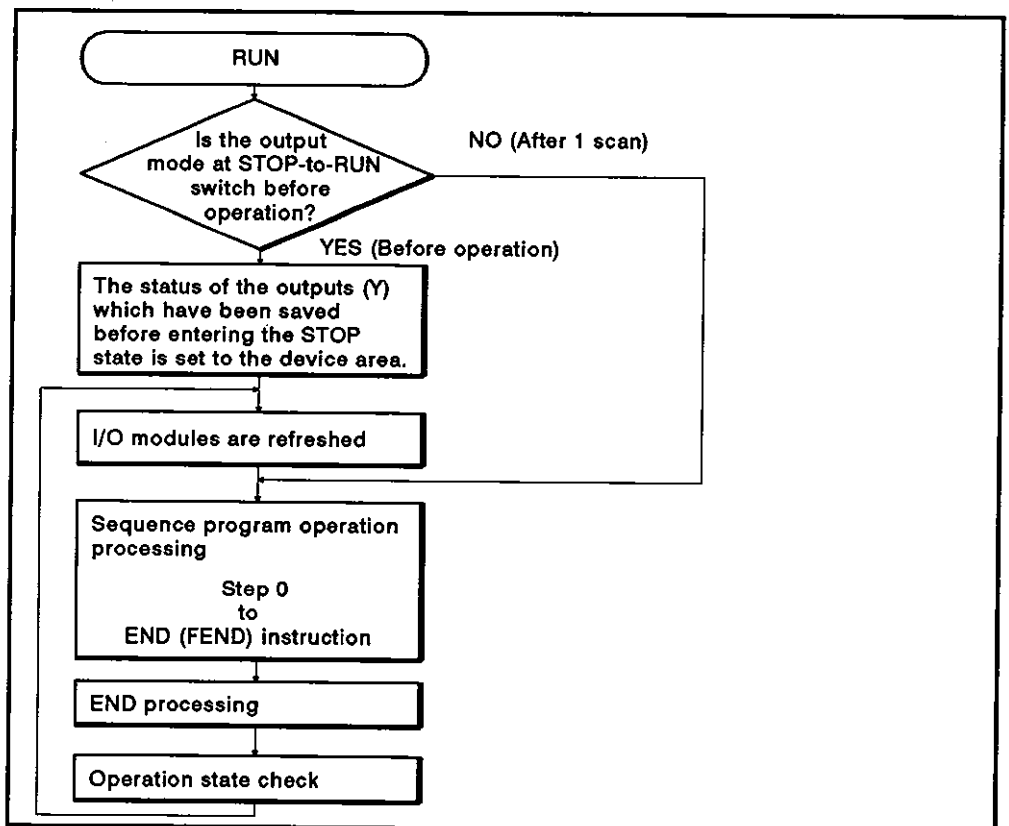

Fig. 4.8 RUN Operation Processing
- (c) In the RUN state, the processing illustrated in Fig. 4.8 is repeated until the operation state is changed from RUN to STOP or PAUSE.
For details on individual processing in Fig. 4.8, refer to Section 4.1.1 to Section 4.1.3.